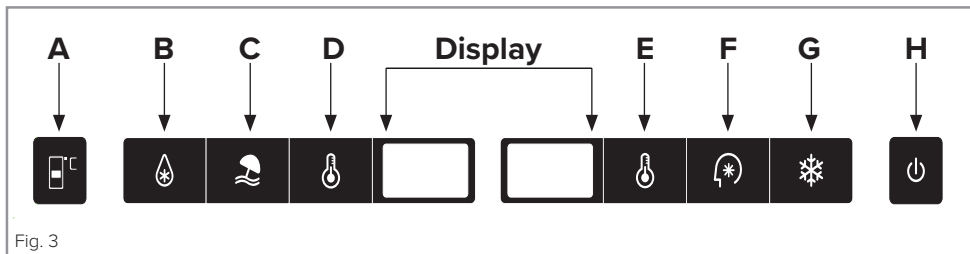

Fig. 3
To help in times of service or cleaning, the appliance has a forced defrost mode which can be activated by touching and holding sensors A and C in Fig. 3 for approximately 3 seconds. The refrigerator temperature adjustment sensor (A) will flash to confirm that the forced defrost function is active. This function should automatically deactivate once the freezer temperature has reached between 10 and 12°C.